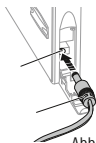
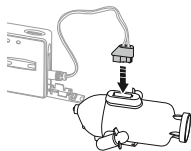
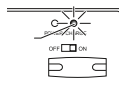

Abb. 8
Abb. 9
Abb. 10
8. Stecken Sie den Ladestecker in die Ladebuchse des Senders (Abb. 8).
Entnehmen Sie die Schalter-Stecker-Einheit vom U-Boot und stecken Sie das andere Ende des Ladekabels in den Steckplatz (Abb. 9). Die Lade LED wird aufleuchten (Abb. 10) und nach 10 Minuten wieder erlöschen. Das U-Boot ist nun aufgeladen.
8. Open the charger cover on the transmitter and take out the charging cable. Insert the charging plug into the charging socket of the submarine (fig. 8). The charging LED lights up to indicate the charging is in process (fig. 9). The charging LED will extinguish after the submarine has been completely charged (charging lasts approximately 40 minutes). Operating time: approx. 5 minutes.
9. Charging by USB cable: Insert the USB plug into the USB port on your computer and the charging plug into the charging socket on the submarine (fig. 10). The charging LED lights up to indicate the charging is in process. The charging LED will extinguish after the submarine has been completely charged (charging lasts approximately 40 minutes). Operating time: approx. 5 minutes.